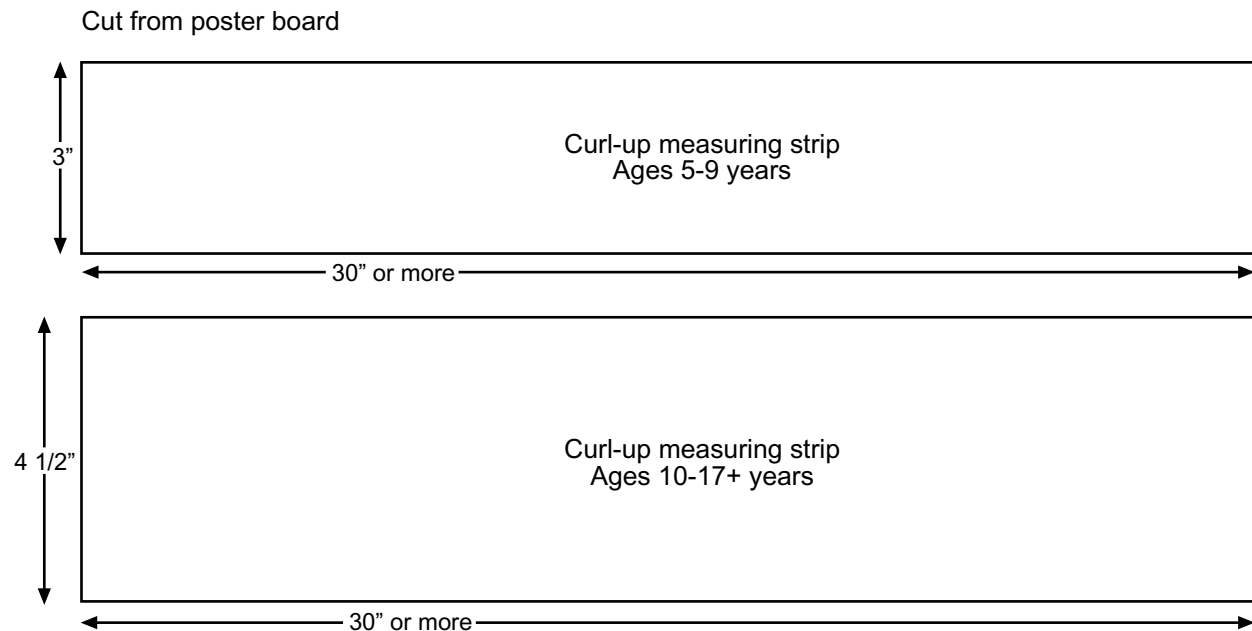

FIGURE 1
Cut from poster board (see figure 1).
2. Permanent measuring strips like those shown in figure 1 could be cut from a sheet of 1/4-inch plywood. These would need to be carefully sanded to prevent splinters. Laminated poster board would also provide more permanent measuring strips.